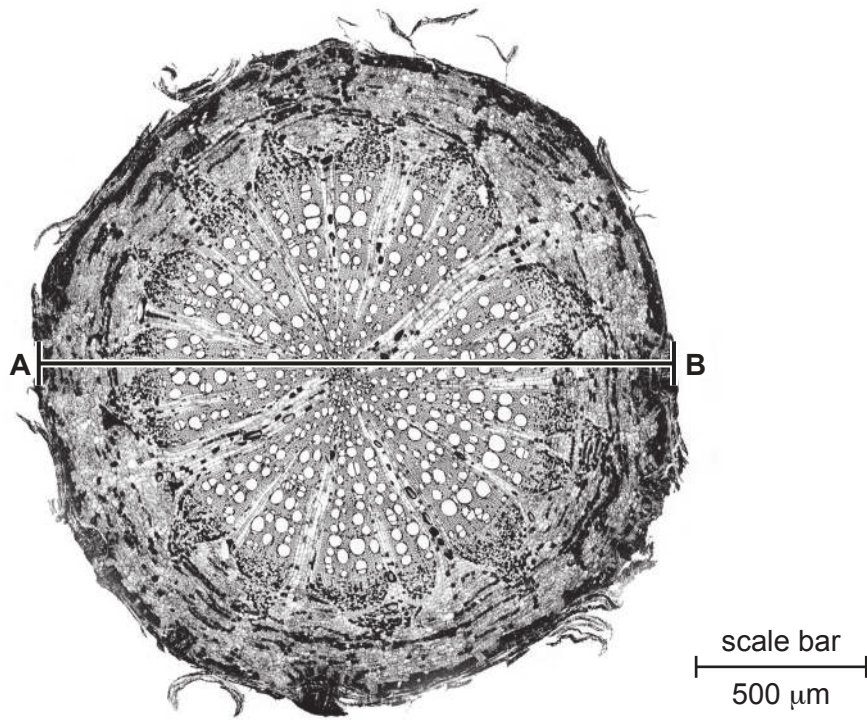

Fig. 2.2
(b) Fig. 2.2 shows a photomicrograph of a transverse section through a different root.
- (i) Identify **three** observable differences, other than colour, between the root section on **K1** and the root section in Fig. 2.2.
(ii) Line **A–B** represents the diameter of the root in Fig. 2.2.
Use the scale bar on Fig. 2.2 to calculate the **actual diameter** of the root.
(iii) Use your value from (b)(ii) to calculate the magnification of Fig. 2.2.